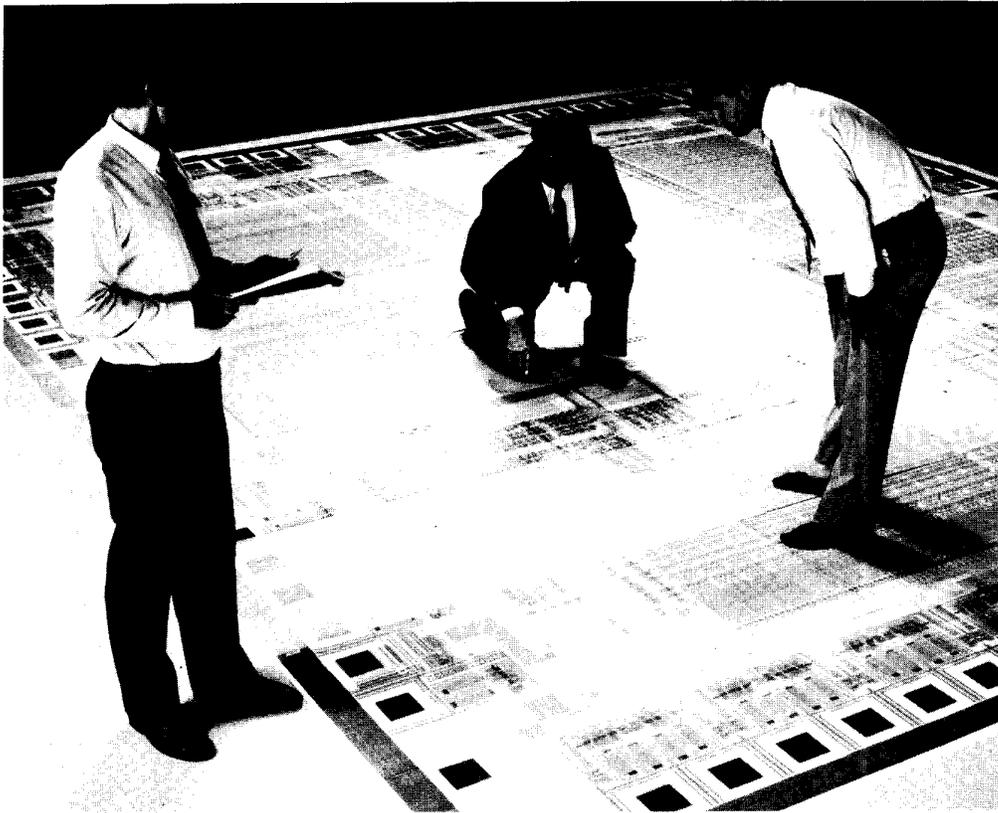

Figure 12.13. At the chip-design level, CAD/CAM isn't a luxury – it's a necessity. (Courtesy of Performance Semiconductor Corporation, Sunnyvale, California.)
□ *CAD-base ASIC.* We finish our CAD narrative by pointing out that you would not dream of designing custom or semicustom (gate-array) ICs by hand (Fig. 12.13). These belong in the general class of "application-specific integrated circuits," or ASICs. Once again, CAD comes to the rescue, with capture and simulation software that gives you some assurance that your chip has a chance of working. ASICs are rational in the context of substantial production runs, and we confidently assume that the situation will only improve with time. By the time of the next revision of this book it may have become